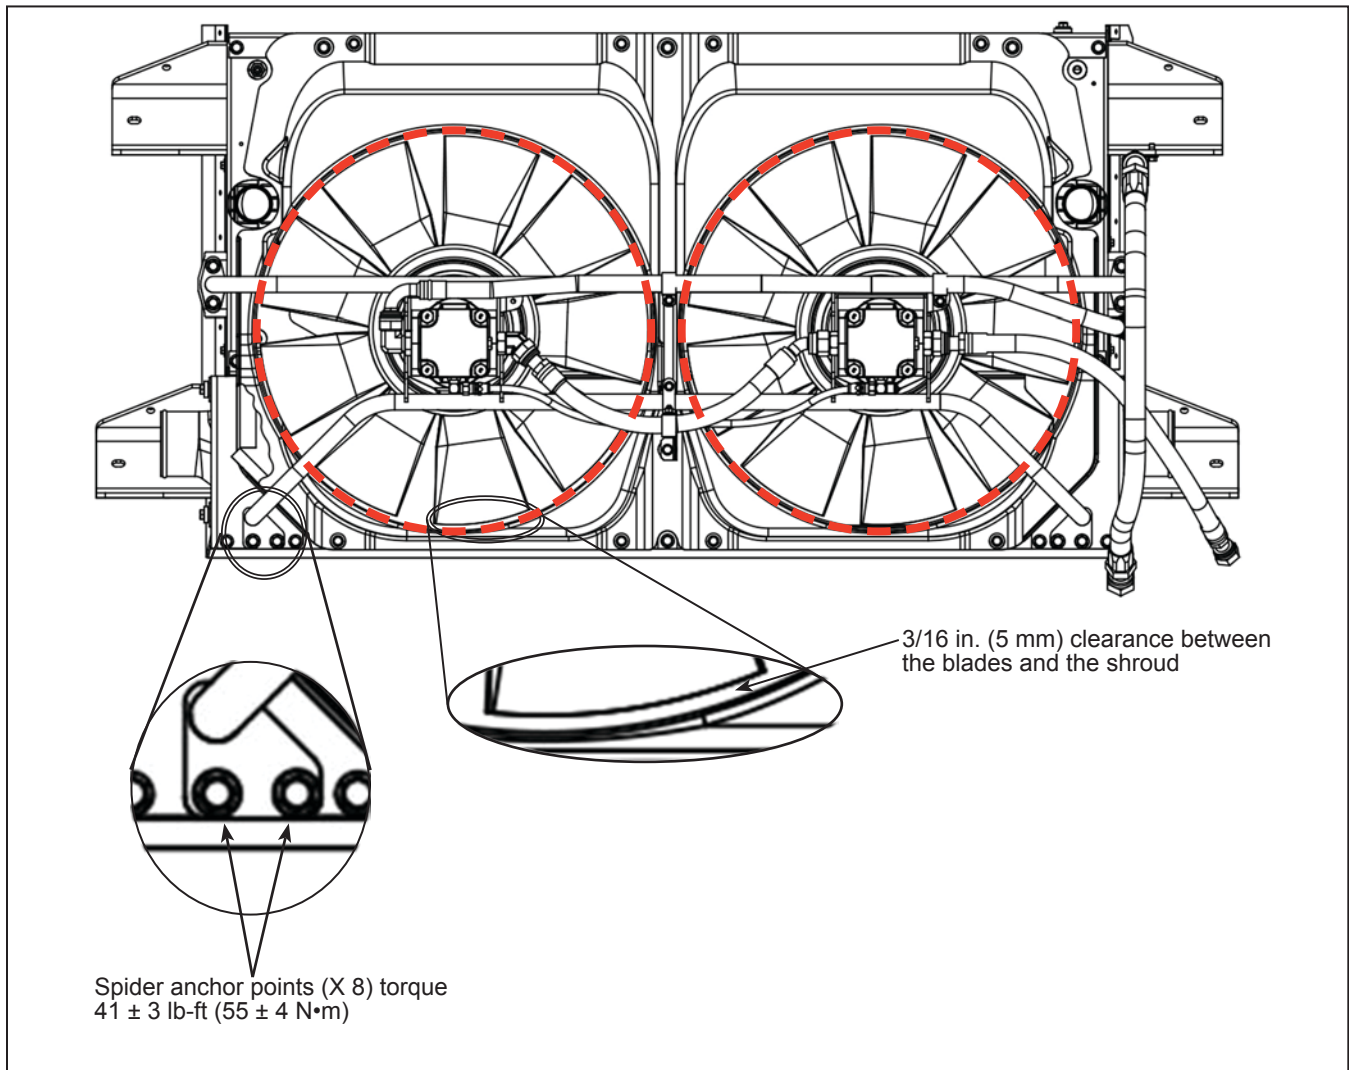

Figure 12 - Torque of the Spider and Spacing Between the Shroud and the Blades
- 1.47. Install the spider and the shroud on the radiator. Adjust the spacing between the internal contour of the shroud and the fan blades in such a way to obtain 3/16 in. (5 mm) clearance. Tighten the shroud bolts once the spacing is adjusted and torque the spider anchor bolts. See Figure 12.